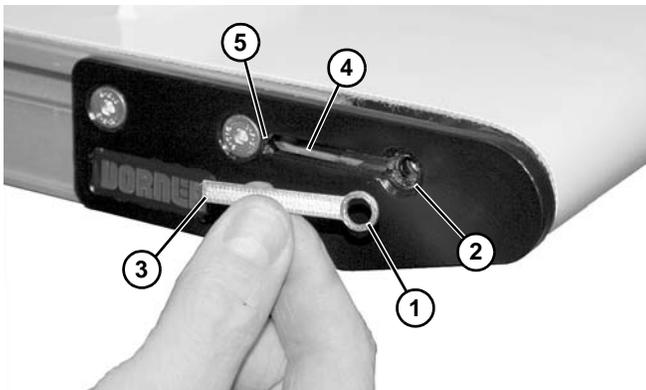

Figure 28
2. Install round end (Figure 28, item 1) of dust cover into recessed screw hole (Figure 28, item 2).
3. Insert flat end (Figure 28, item 3) of dust cover into access slot (Figure 28, item 4), making sure it rests against notch (Figure 28, item 5).